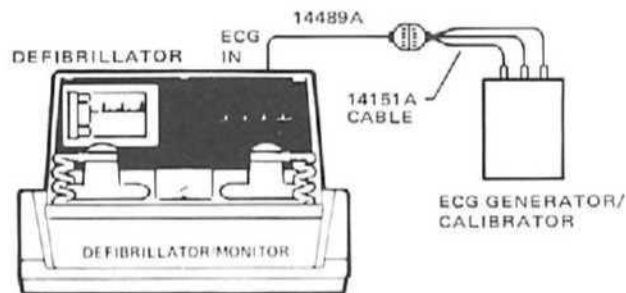

Figure 3-22. Heart Rate Accuracy Test Setup.
1. Connect the test equipment as shown in Figure 3-22.